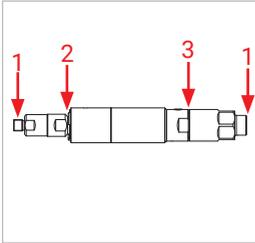
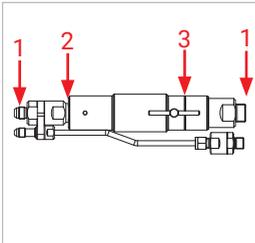

Figure 10
Figure 11
- ▶ Check the following measuring points (*Figure 10* and *Figure 11*)
- Fittings (1)
- Area of the clamping jaws (2)
- Area of the eccentric actuator (3)